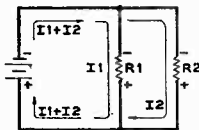

Fig. 2. Currents in circuit of Fig. 1.
1) *At any junction point in a circuit, the sum of currents directed toward the junction is equal to the sum of currents directed away from the junction.* Fig. 2